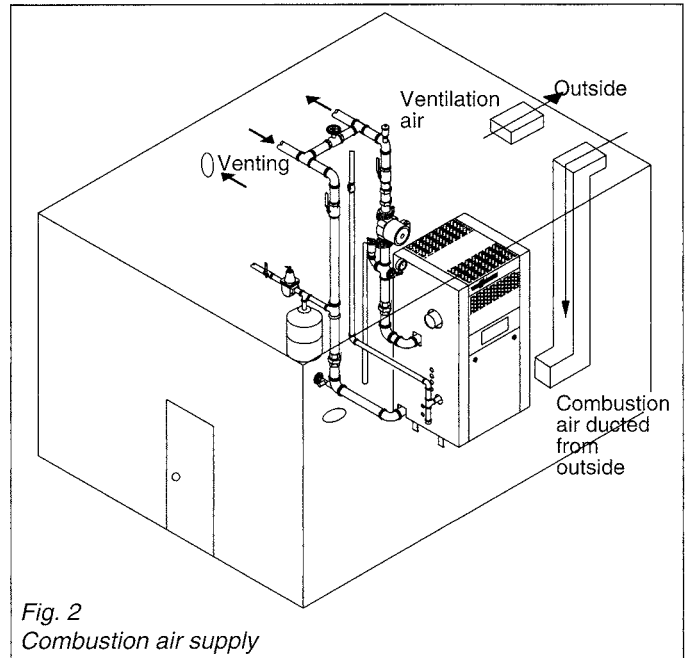

Fig. 2
**Combustion air supply** (see Fig. 2)
Whenever possible install boiler near an outside wall so that it is easy to duct fresh air directly to the boiler area. See example in Fig. 2. Refer to national codes for duct sizing. Round ducts can be used.